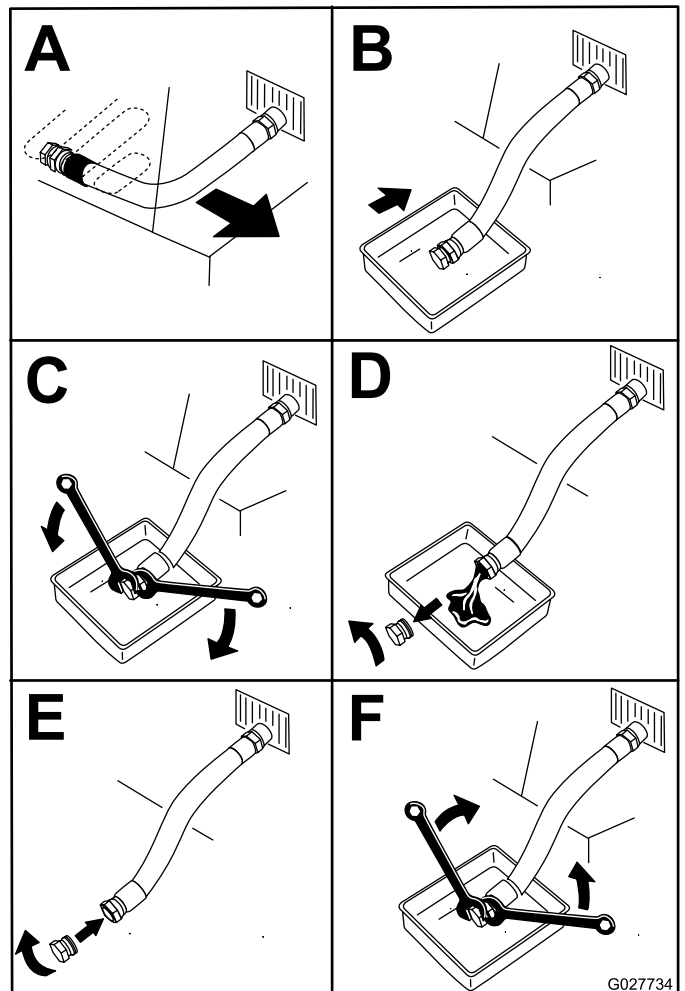

Figure 63
- Drain the oil from the engine (Figure 63).